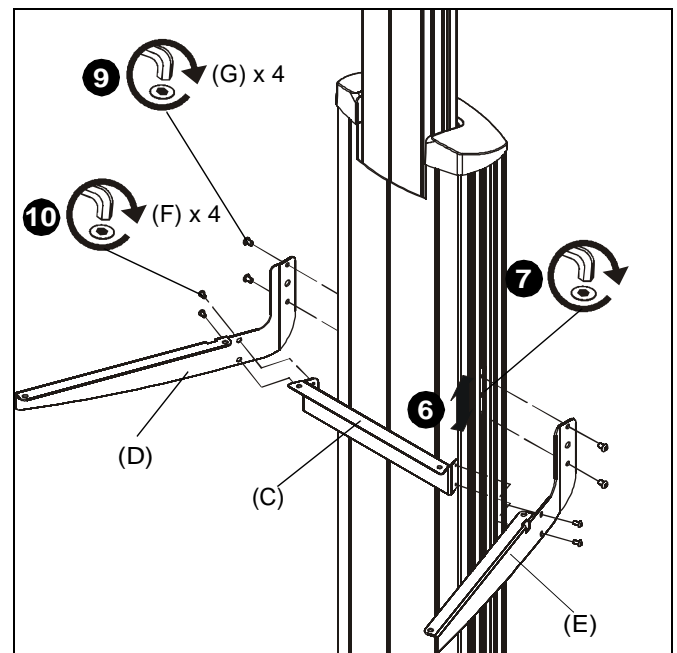

Figure 3
6. Slide accessory bracket B up or down in side channel until desired mounting height is reached. (See Figure 3)
7. Tighten set screw (H) to lock bracket in position. (See Figure 3)
9. Use four 1/4-20 x 3/8" button head cap screws (G) to secure right and left shelf supports (D and E) to accessory brackets (B). (See Figure 3)
10. Use four #10-24 x 3/8" button head cap screws (F) to secure right and left shelf supports (D and E) to center support bracket (C). (See Figure 3)